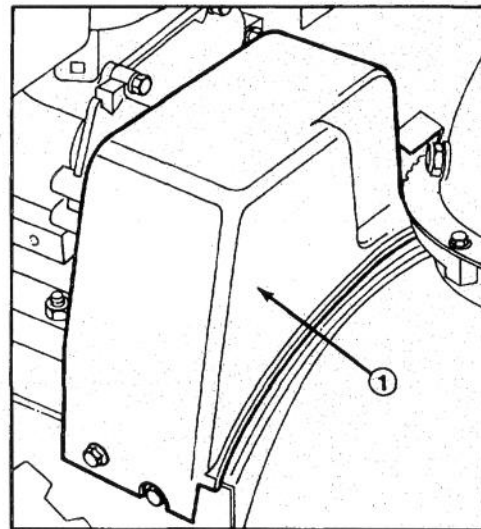

Figure 22
2. Remove two thread forming screws holding belt cover in place, and set belt cover aside (Fig. 22).
2. Remove two thread forming screws holding belt cover in place, and set belt cover aside. (Fig. 22).